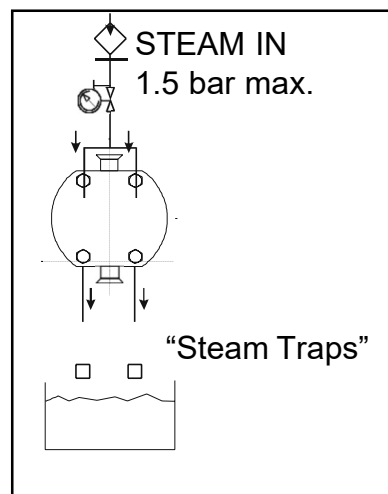

Figure 6:
- See figure 6 for suggested steam connection.
**Steam Barriers:** The pressure of steam should be as low as possible consistent with the desired temperature. Steam should be connected in at the highest point on the endcover and out at the lowest point to allow any condensate to drain from the lowest point. (See Figure 6).